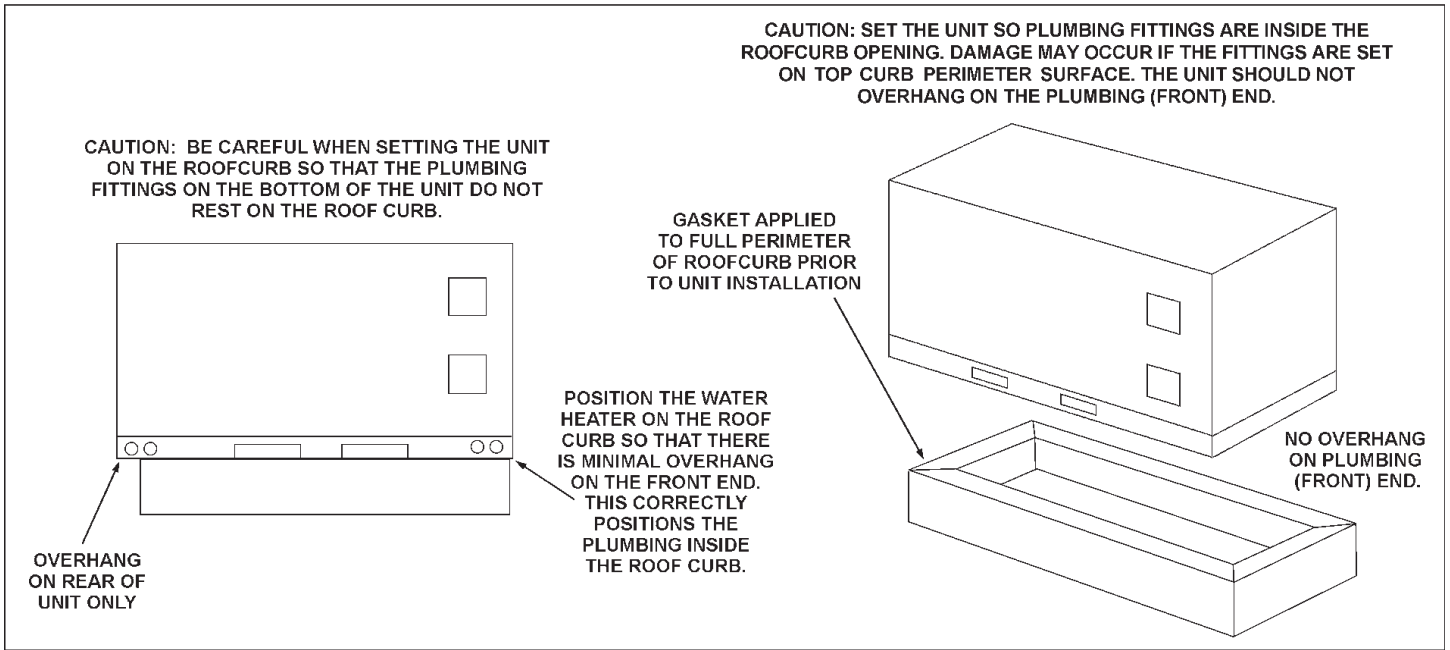

FIGURE 30
**IMPORTANT: THE GASKETING OF THE UNIT TO THE ROOF CURB IS CRITICAL FOR A WATER TIGHT SEAL. INSTALL GASKET SUPPLIED WITH THE ROOF CURB AS SHOWN IN FIGURE 30.**